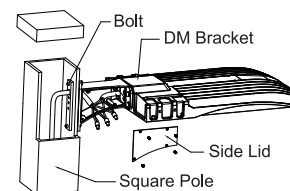
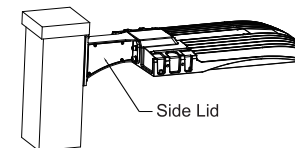

Figure 8
Figure 9
4. Fix the direct bracket to the lamp pole with bolt. (Figure 8)
5. Connect the wire from the lamp pole to the wire of lamp body (Figure 8), make sure the wire is well-protected, place the wire on direct bracket, then close the lid and tighten to finish installation. (Figure 9)